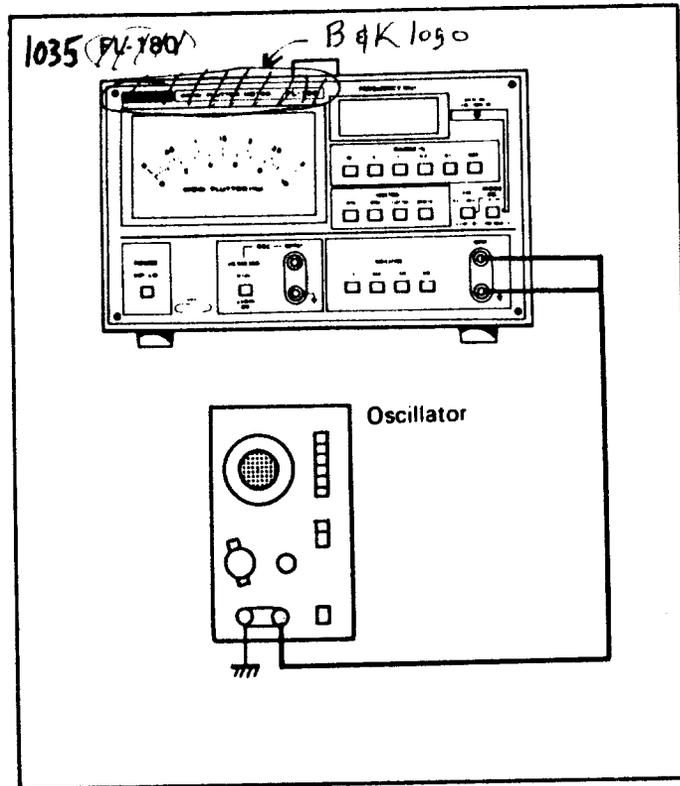

Fig. 6. Input Connections for Frequency Counter.
1. Set Mode switch to **FREQ COUNTER** position and connect signal to be measured to **INPUT** terminals (see Fig. 6).